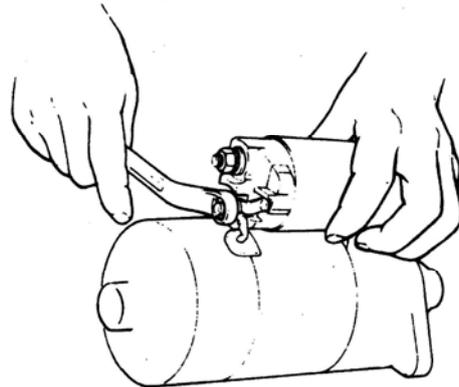

Fig. 9-10
- (1) Disconnect wire (switch to motor) from magnetic switch terminal (Fig.9-10).